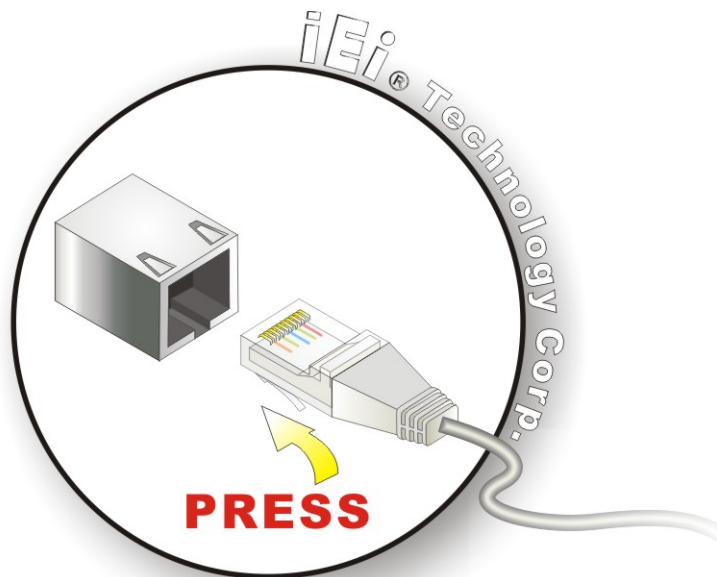

Figure 4-16: LAN Connection
Step 2: **Align the connectors.** Align the RJ-45 connector on the LAN cable with one of the RJ-45 connectors on the KINO-PV-D5252/D4252. See Figure 4-16.